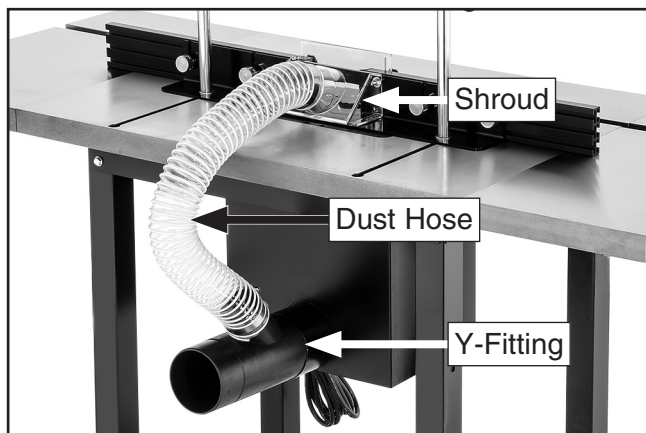

Figure 32. Dust hose installed.
26. Attach 2½" dust hose (see **Figure 32**) on dust shroud and Y-fitting. Secure with 2½" hose clamps.